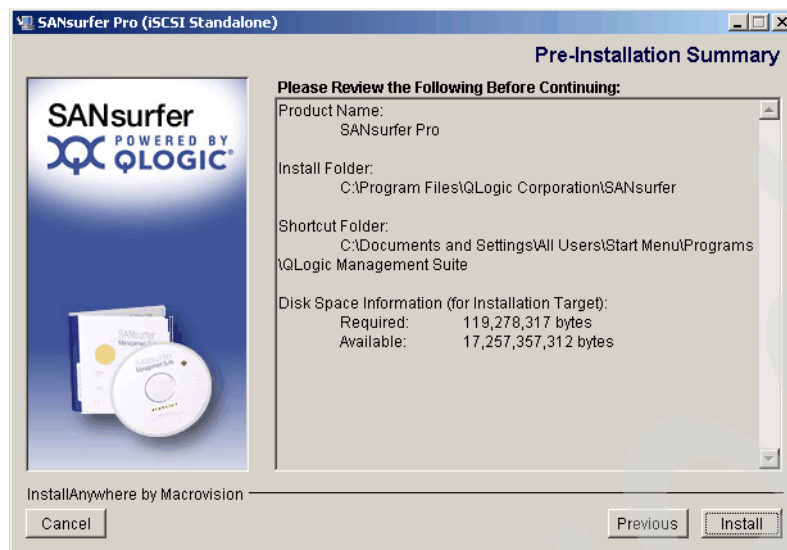

Figure 21-18 SANsurfer installation - Pre-installation summary
11. Verify the pre-installation summary shown in Figure 21-18, and click **Install**.